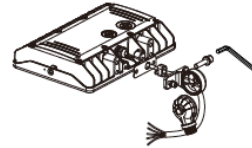

Fig. 2
2. Lock bracket to fixture and pull wire through other side of bracket (Fig. 2).